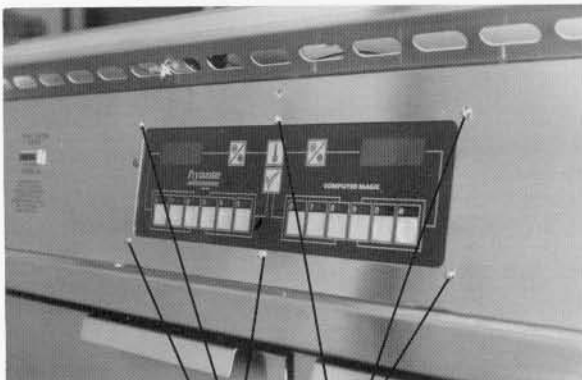

Figure 3
4. Remove 6 screws and nuts securing computer to control panel and remove computer (Fig. 3).